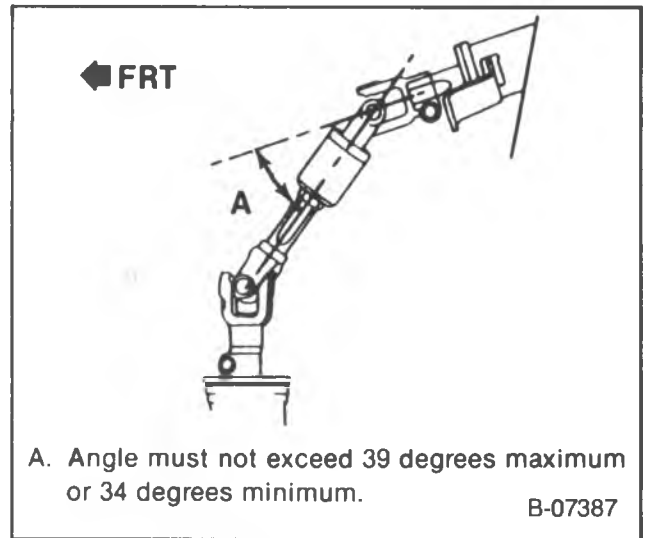

Figure 8 — Carden Joint Angle (G-Model)
Measure (Figure 8)
- Cardan joint operating angle. The angle must not exceed 39 degrees maximum or 34 degrees minimum (figure 8).